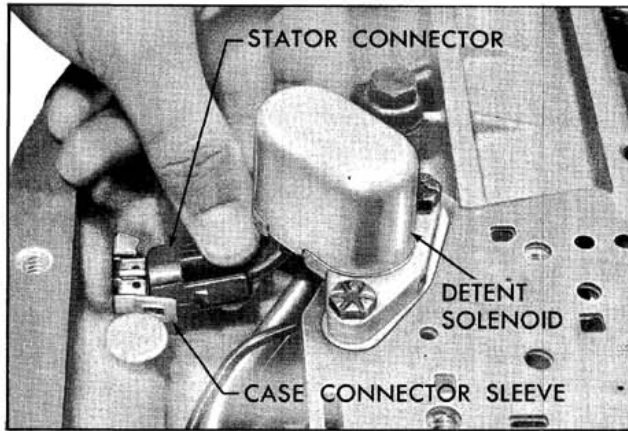

Fig. 6-39 Disconnecting Electrical Connector From Case Connector
5. Disconnect connector from case connector (Fig. 6-39)